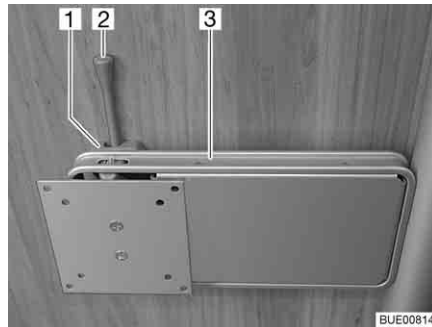

Fig. 66 Holder on the column
- Push the release lever (Fig. 66,2) to the side and turn the holder (Fig. 66,3) with the flat screen to the desired position.
- Turn flat screen back until the holder (Fig. 66,3) engages in the lock (Fig. 66,1).